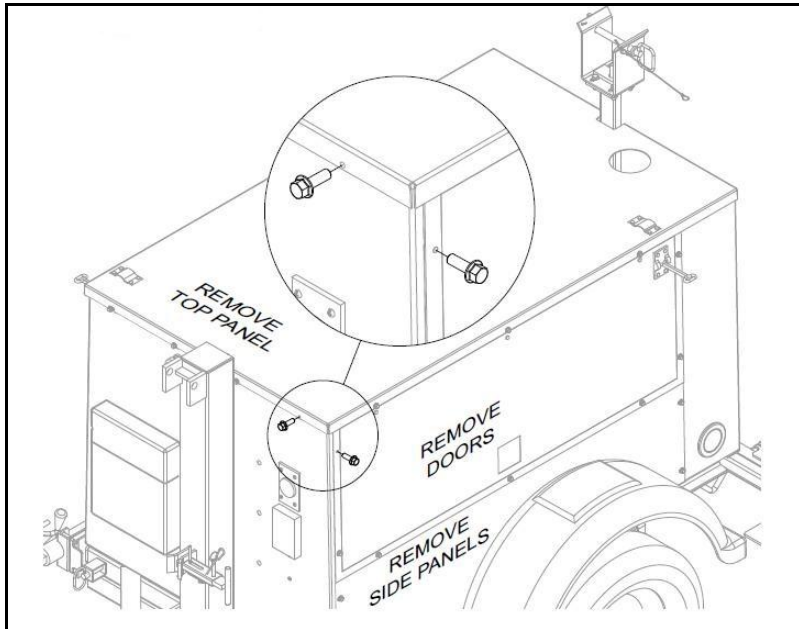

FIGURE 7
1. For easier access to the generator, remove doors, side and top panels from trailer. Retain mounting hardware. See Figure 7.